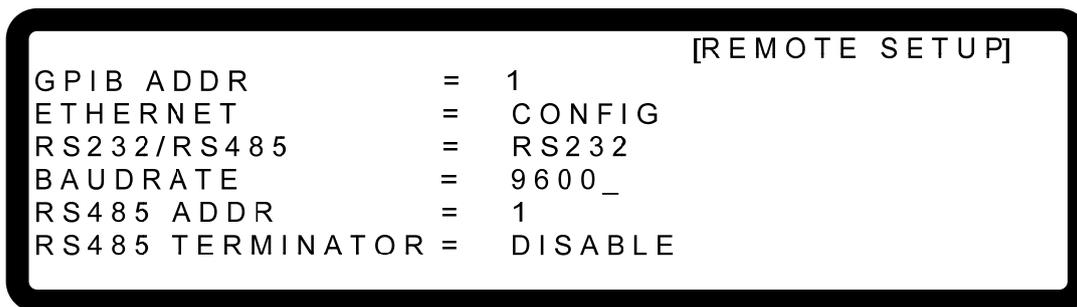

Figure 3-125
1. Use "←↑", "↓→" keys to move the cursor to the column of BAUDRATE as Figure 3-125 shows.